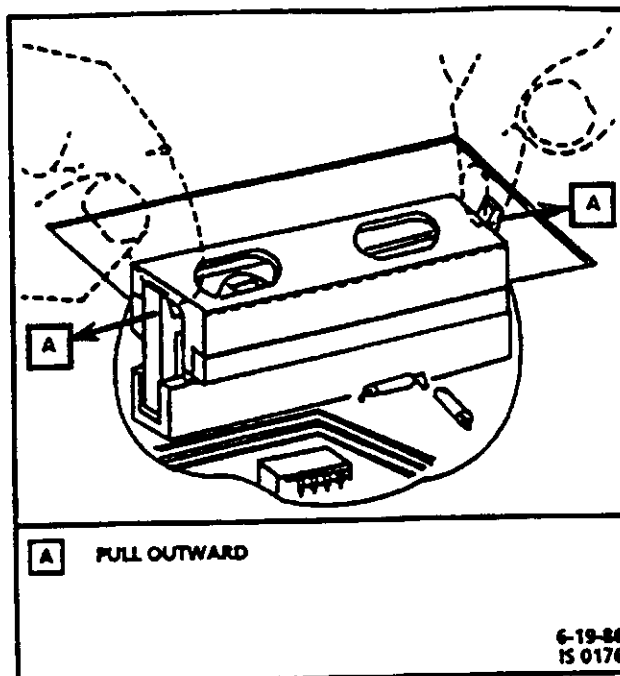

Figure 3.1-4 Engine Calibrator Removal
- Replacement electronic control module is supplied without a memory-calibration unit (engine calibrator) so care should be taken when removing the engine calibrator (See Figure 3.1-4) from the defective electronic control module as it will be reused in the new electronic control module.
- Using two fingers, push both retaining clips back away from the engine calibrator at the same time (See Figure 3.1-4). Grasp the engine calibrator at both ends and lift up out of the engine calibrator socket. Do not remove the cover of the engine calibrator. Use of unapproved engine calibrator removal methods will cause damage to the engine calibrator or engine calibrator socket.
- Remove engine calibrator assembly. (Figure 3.1-4).